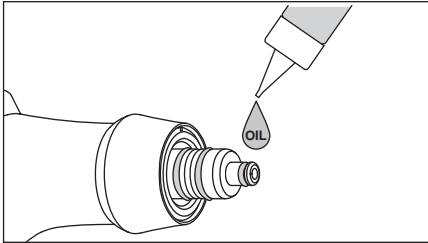

Fig. 21
- 1) Dry the O-ring section of the Powder Case and the Adjustment Ring section, apply a drop of the supplied turbine oil and rub it in with your finger, etc. (Fig. 21, 22)